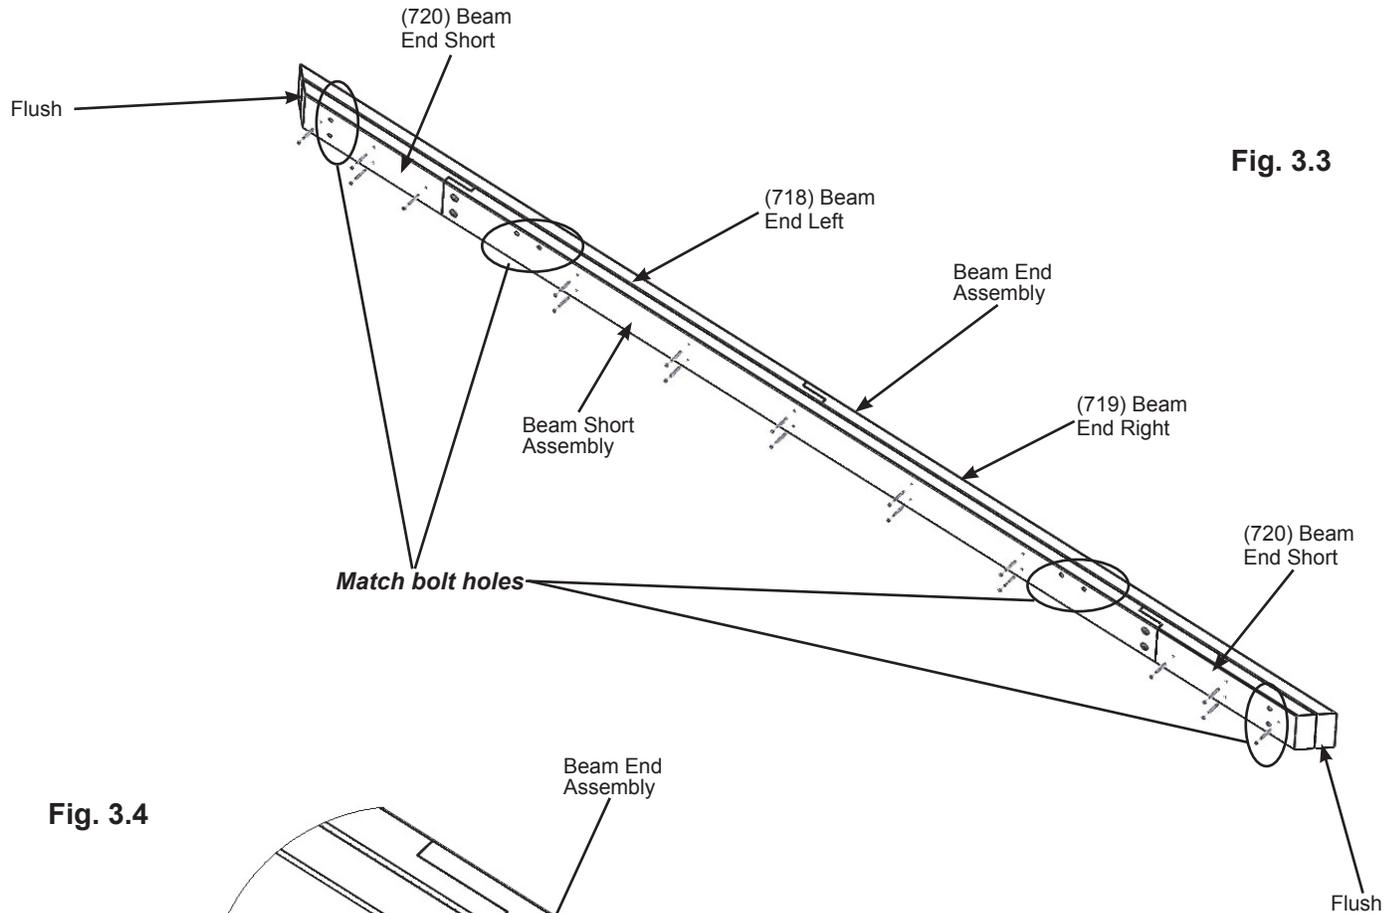

Fig. 3.3
D: Place one Beam Short Assembly on one Beam End Assembly so the ends are flush. Match the bolt holes in each (720) Beam End Short with the bolt holes in (718) Beam End Left and (719) Beam End Right. Attach with 18 #8 x 2-1/2" Wood Screws. (fig. 3.3 and 3.4)